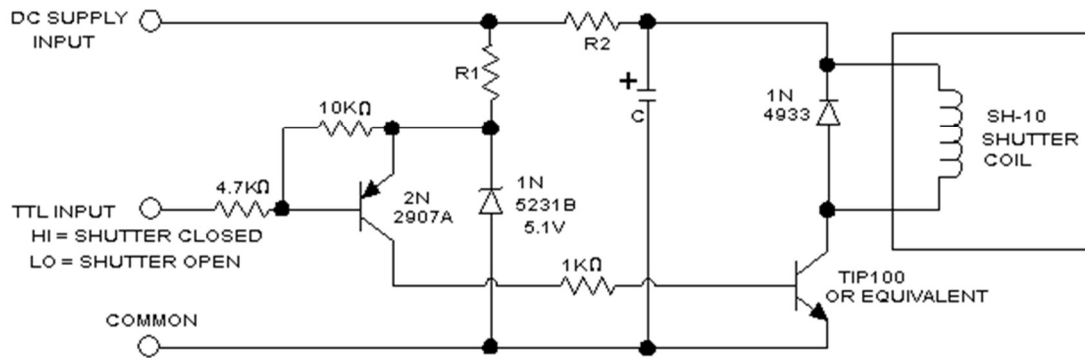

FIG. 3
3. TO CONTROL THE SHUTTER WITH A TTL INPUT SIGNAL, AND NOT BY THE ON-OFF SWITCH, THE FOLLOWING DRIVE CIRCUIT IS ADVISED (TO "OPEN" OR "CLOSE" THE SHUTTER). CONNECT THE POWER SUPPLY TO "DC SUPPLY INPUT AND "COMMON". CONNECT THE TTL SIGNAL TO "INPUT" AND "COMMON". (SEE FIG. 3 AND TABLE 3)